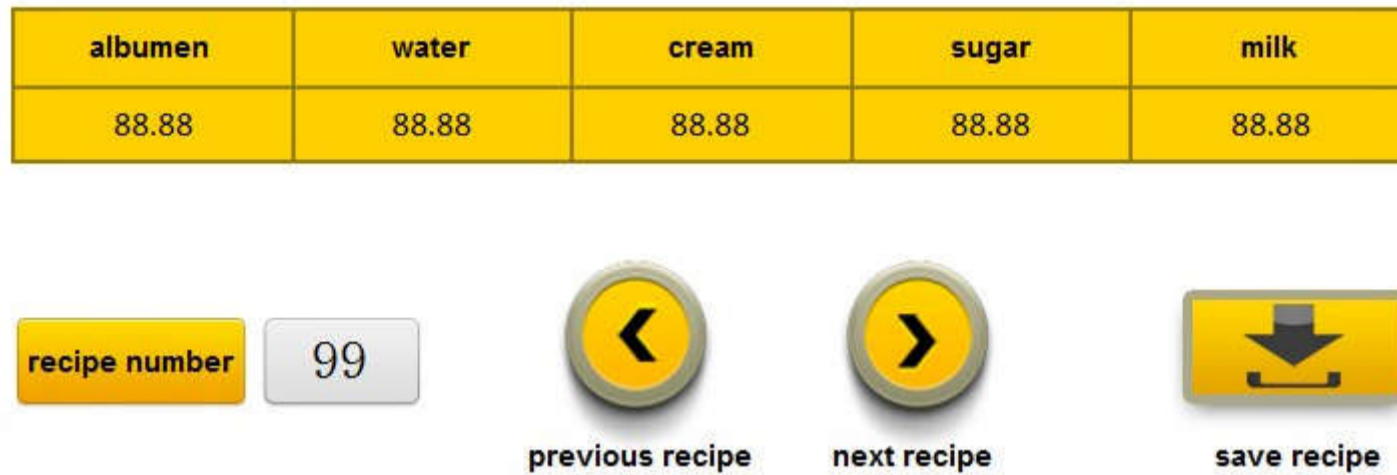

Figure 7-35 Effect of the Recipe
3. According to the above operation, a screen can be created as shown in Figure 7-35: